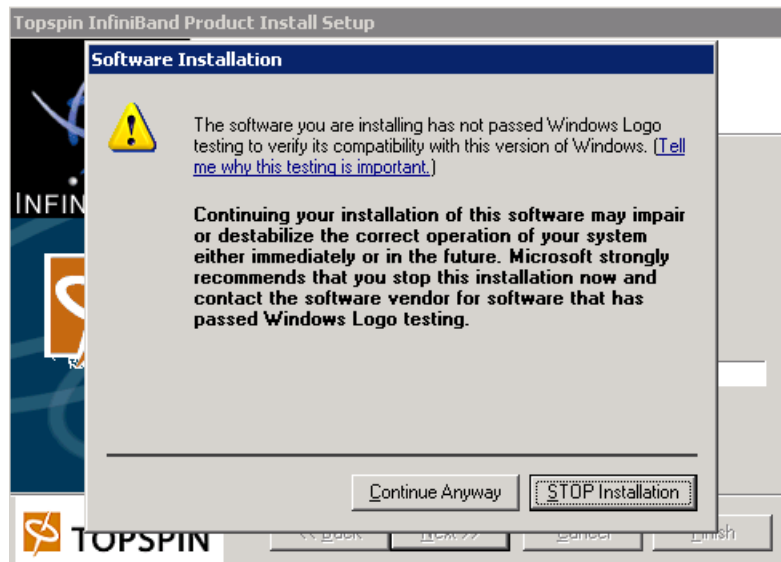

Figure 5-4 InfiniBand Windows Host Driver Installation process
7. During the installation, you will see an alert indicating the driver has not passed Windows Logo testing as shown in Figure 5-4. Click **Continue Anyway**.